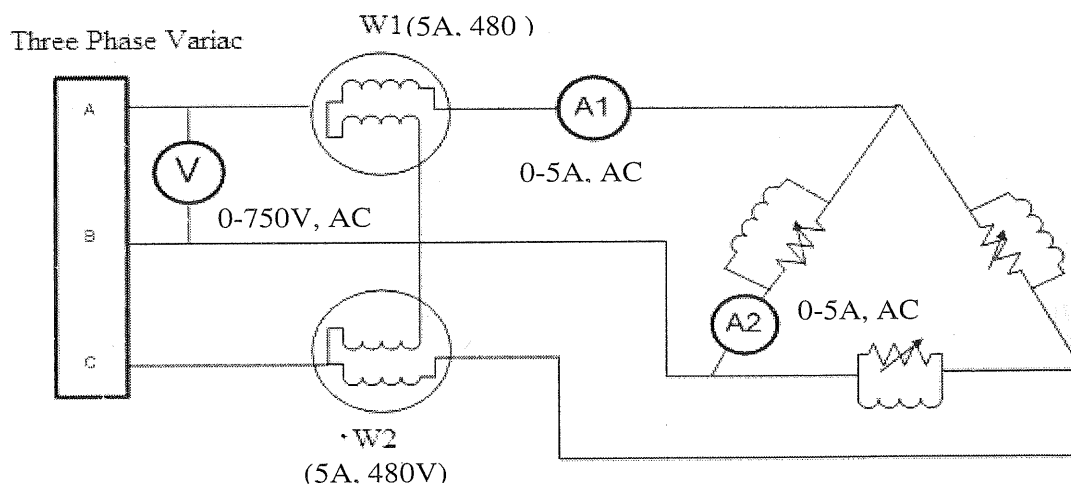

Figure 2: Circuit diagram for power measurement of a delta connected balanced system by two wattmeter method.
Step 1 – Connect the circuit as shown in Figure 2. Here the load is formed by parallel connection of the resistive and inductive loads.